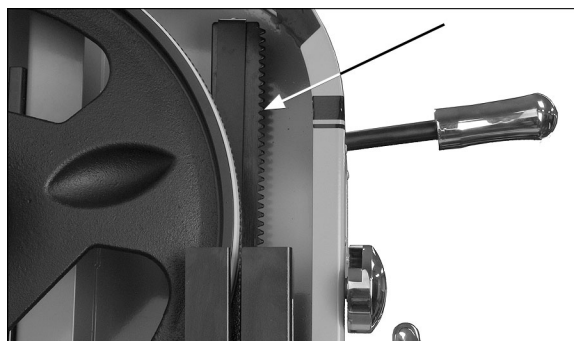

Figure 43
1. Periodically apply a light, non-hardening grease to rack and pinion system of guide post (Figure 43).